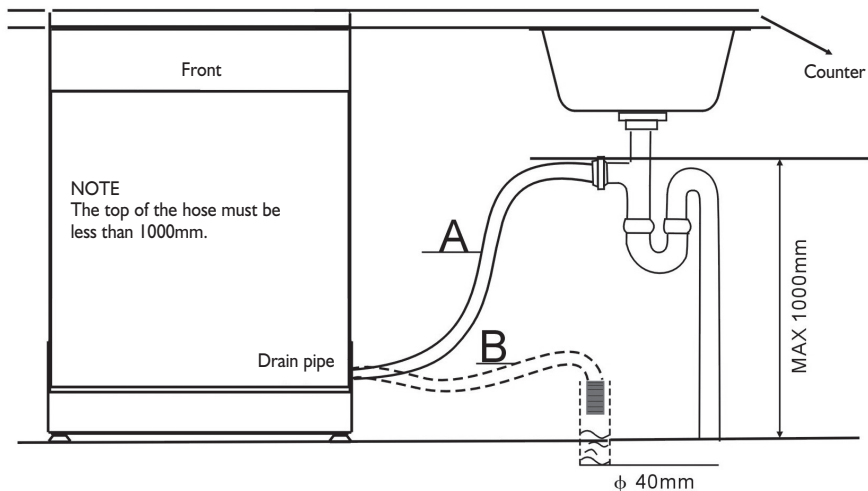

Fig. 3
2. Connect the drain hose. Refer to diagram (Fig. 3).